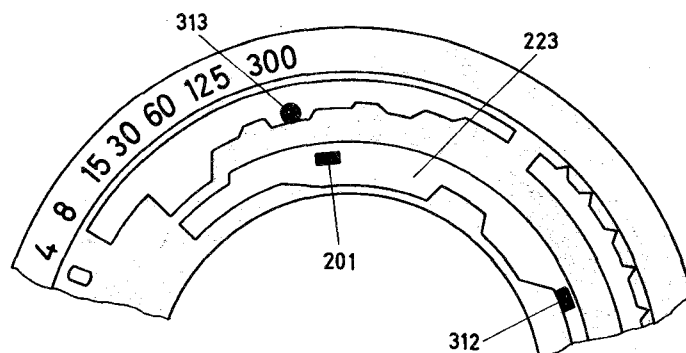

Fig. 36
4. A third type of shutter speed setting ring is required in cases in which the escapements 00475-G20.1 or 00476-G20, respectively, are used. See also Para. 1c, Sheet 58 (Escapement Mechanism). This setting ring 00375-137.1 is shown in Fig. 36 on Sheet 84.